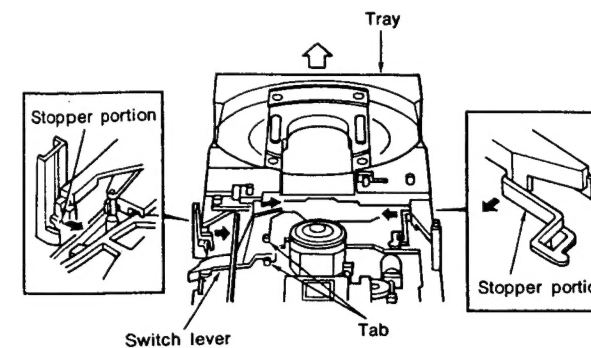

Fig. 1
## 1. Parts replacement of the tray mechanism (Figs. 1 and 2)
Open the tray and use a flat-bladed screwdriver to press the stopper portions of Fig. 1 (one each in the left and right locations) in the direction of the black arrow, then remove in the direction of the white arrow.
## (2) Mounting of the tray (Figs. 1, 2, and 3)
## (8) Replacement of the switch lever (Fig. 1)